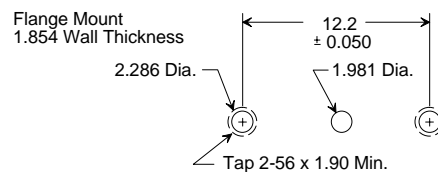

Figure 3. Mounting-Hole Dimensions for the K103 Flange Mount Connections
- Tap the two or four mounting holes as shown in Figures 3 and 4.